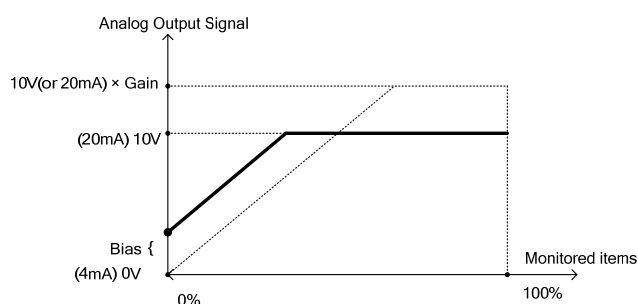

Figure 4.3.51 Analog output level adjustment
(1) Analog output adjustment (04-12, 04-13) °
- Please refer fig 4.3.51 for analog output level adjustment.